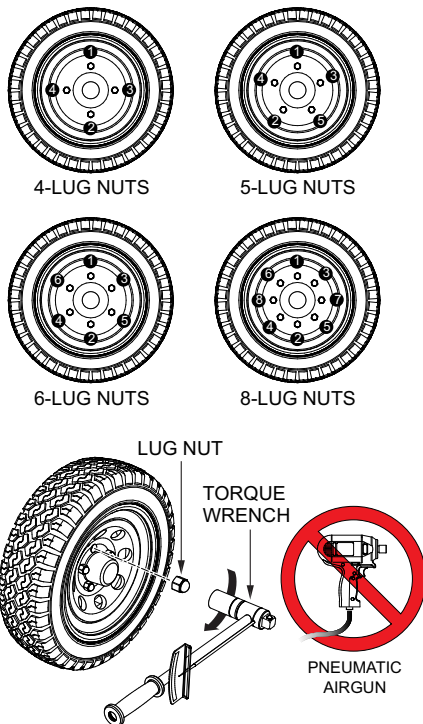

Figure 37. Wheel Lug Nuts Tightening Sequence
2. Torque all lug nuts in sequence. See Figure 37. **DO NOT** torque the wheel lug nuts all the way down. Tighten (torque) each lug nut in three separate passes as defined by Table 9.
3. After first road use, retorque all lug nuts (Figure 37) in sequence . Check all wheel lug nuts periodically. Reference Table 9 for torque requirements.